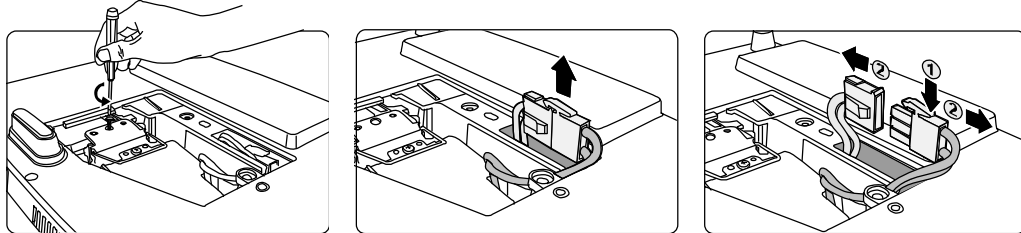

Figure 2. Disconnecting Lamp Assembly.
4. Using a flat tipped screwdriver, loosen and remove the screw that secures the lamp assembly as shown in Figure 2.
5. Pull out the lamp connector from a slot in the lamp compartment and disconnect lamp connector from the projector as shown in Figure 2.